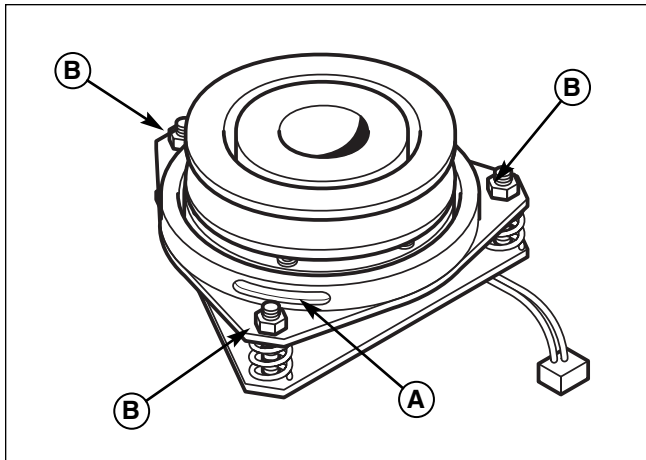

Figure 30. PTO Clutch Adjustment
2. See Figure 30. Note the position of the 3 adjustment windows (A) in the side of the brake plate and the nylock adjustment nuts (B).
4. Alternately tighten the adjustment nuts (B, Figure 30) until the rotor face and armature face just contacts the gauge.